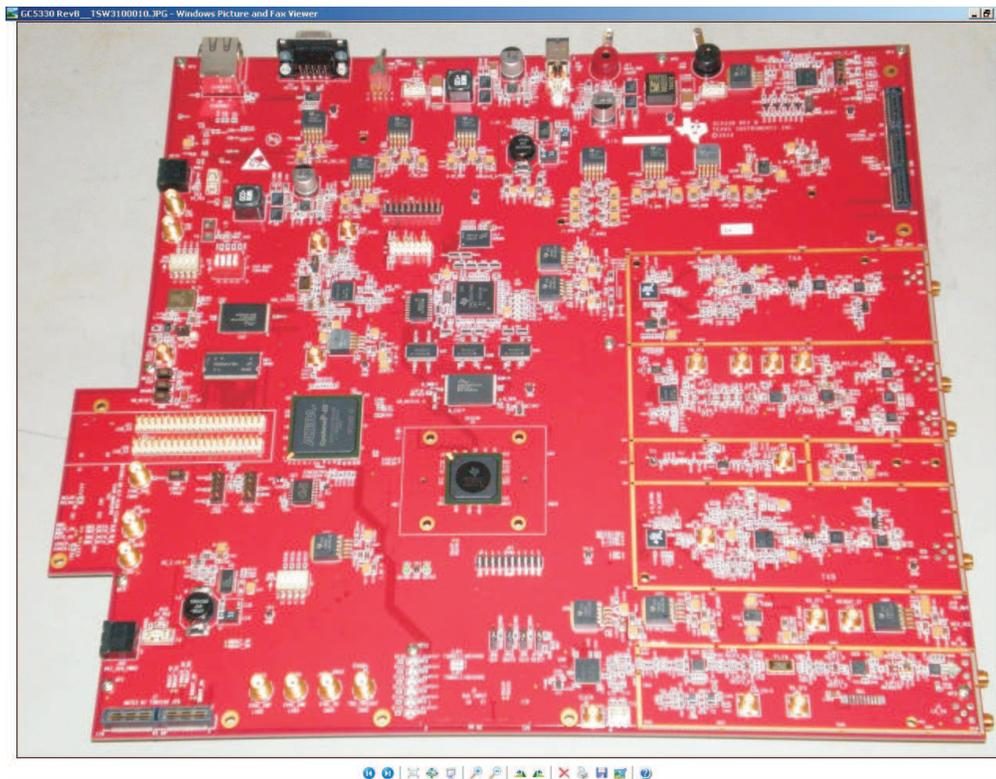

Figure 1. GC6016EVM
- GC6016EVM board (Figure 1).
The GC6016EVM is shown in Figure 1.